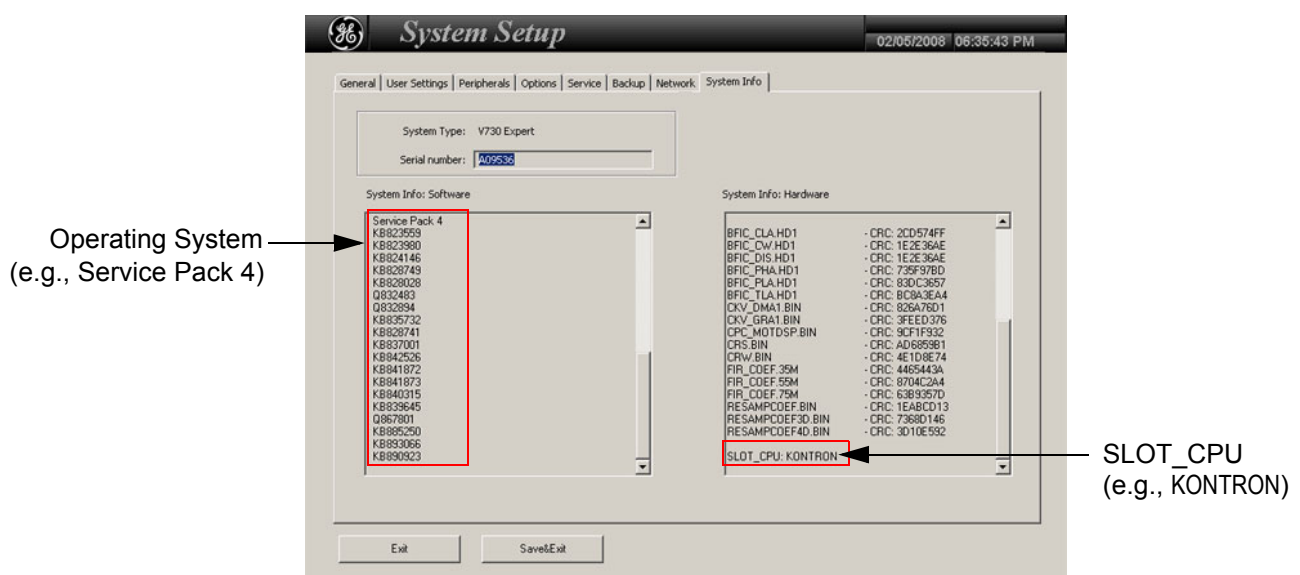

Figure 7-1 System Setup - System Info page
- 2.) Vital system data (see: Figure 7-1 on page 7-2)